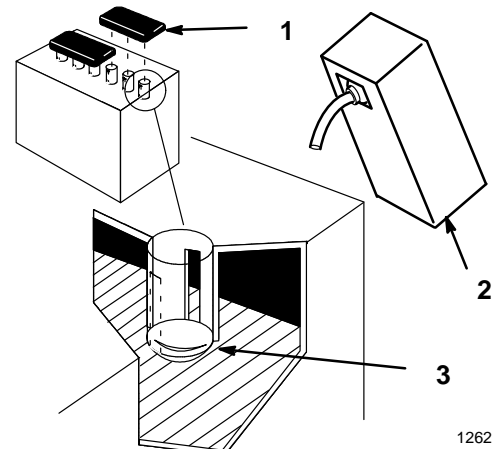

Figure 5
2. Remove filler caps from the battery. Slowly pour electrolyte into each cell until the electrolyte level is up to the lower part of the tube (Fig. 5).
5. Slowly pour electrolyte into each cell until the level is once again up to the "UPPER" line on the battery case (Fig. 5) and install covers.
6. Install the battery in the tractor and connect cables with (2) 1/4 x 3/4" bolts and (2) 1/4" plastic wing nuts: refer to the Operator's Manual, Installing the Battery.